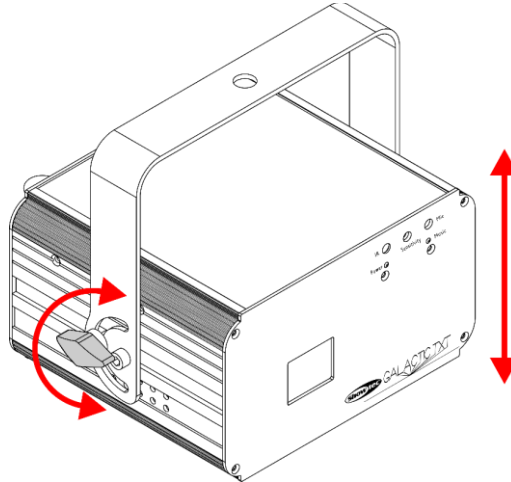

Fig. 10
- 01) Turn the **adjustment screws (07)** counterclockwise to release them.
- 02) Tilt the device at the desired angle (see Fig. 10).
- 03) Turn the **adjustment screws (07)** clockwise to tighten them. Make sure that the device cannot move freely after the **adjustment screws (07)** are tightened.